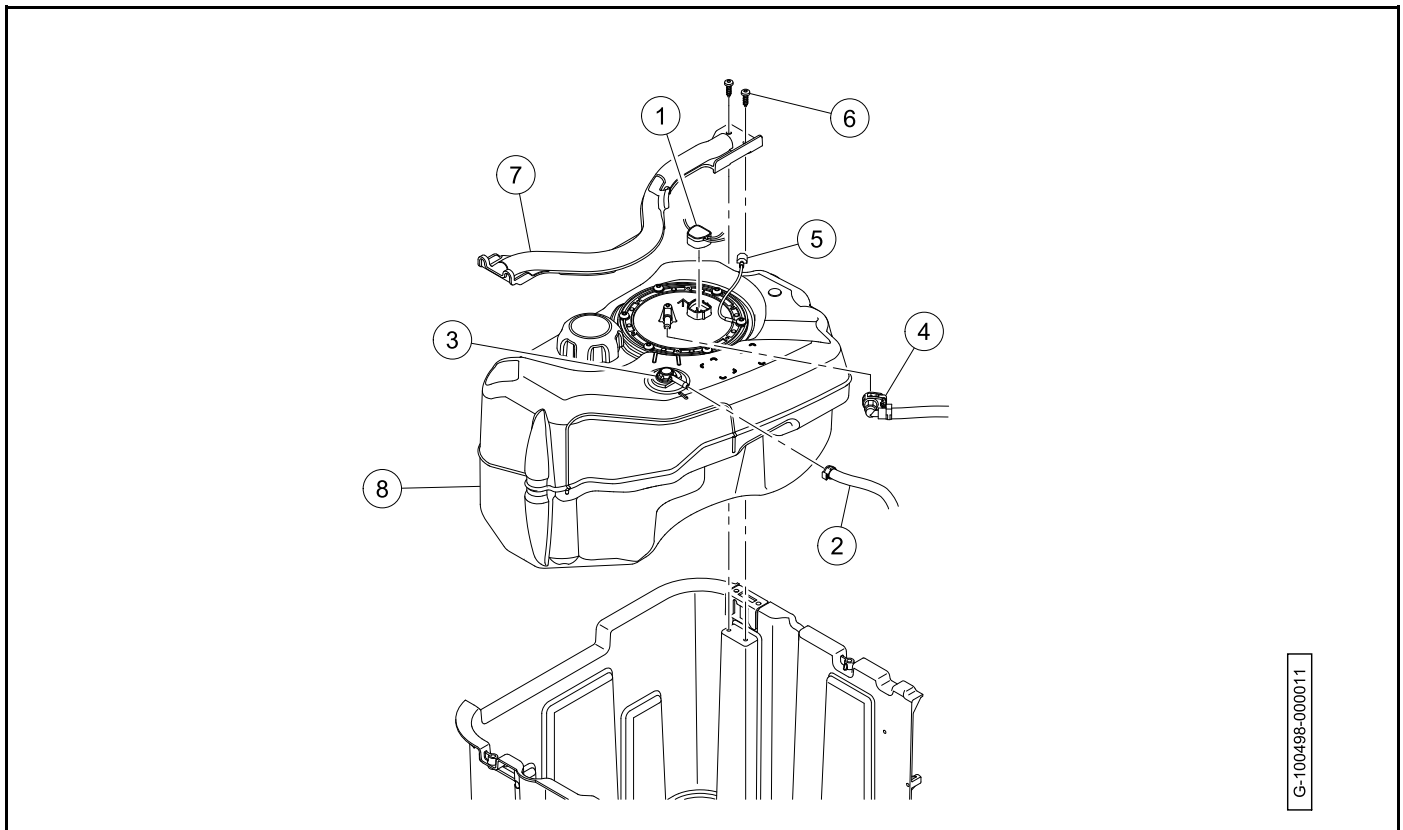

Figure 21-21 Fuel Tank Removal
- Disconnect the wire harness (1) from the fuel pump module (**Figure 21-21, Page 21-21**).